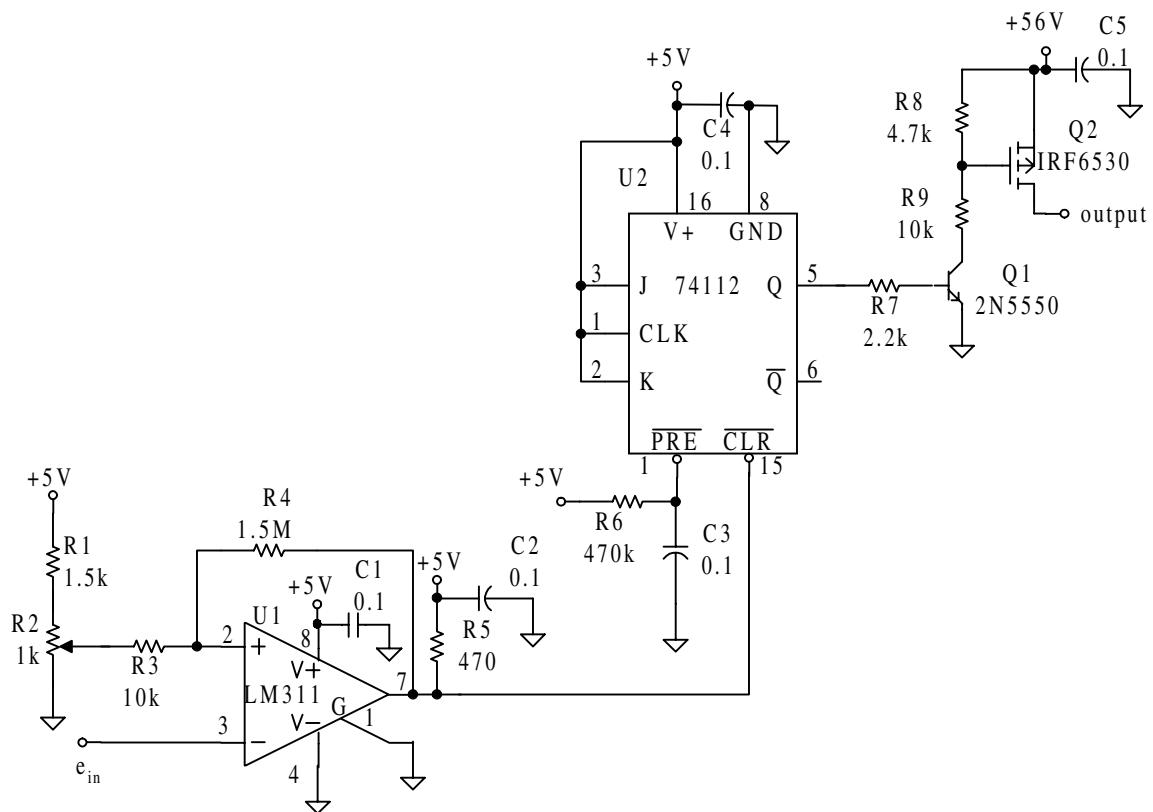

Figure 2-25 Over-temperature power control for Problems 2-1 and 2-2
- 2-1** Lay out the circuit in Figure 2-25 on a breadboard. The input amplitude is less than 2 V. There is to be a $10\ \Omega$ load connected between the output terminal and the power supply common.
- 2-2** Design the printed circuit board layout for the circuit in Figure 2-25. The mechanical specifications are: